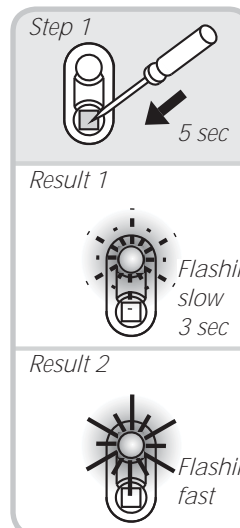

Fig. 22
- The LED then flashes fast, indicating that all links have been deleted (see Fig. 22).